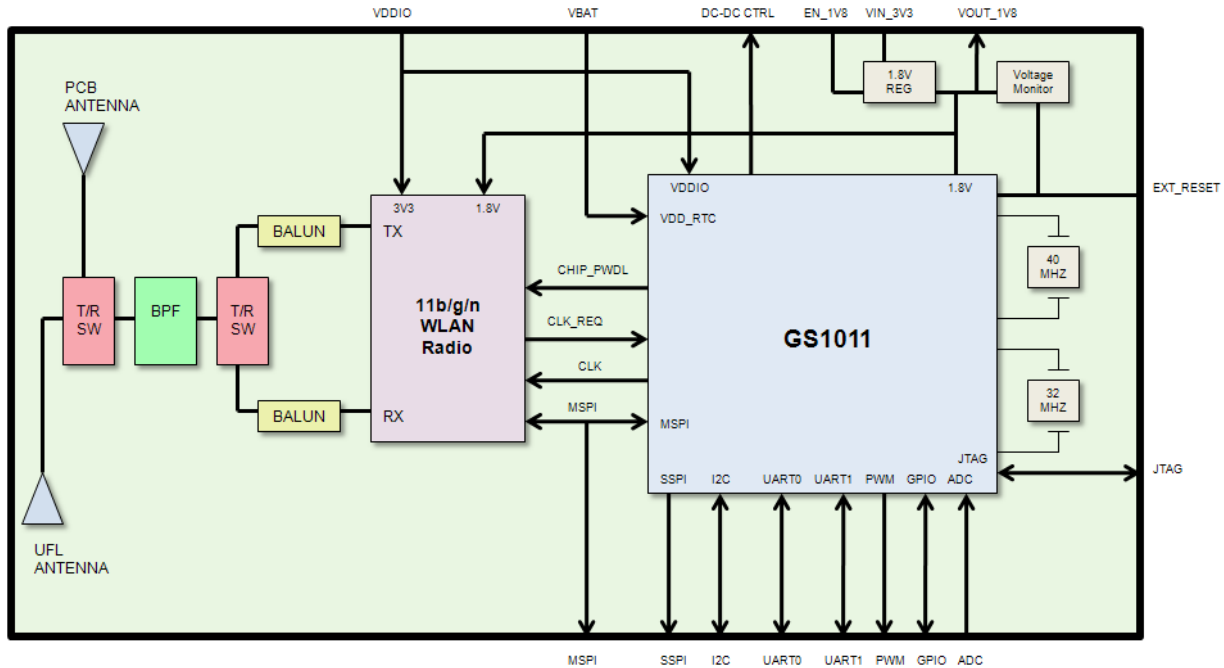

Figure 2-1: GS1500M Block Diagram
- The module has a capability of +15dBm output power at the antenna (see Figure 2-1).